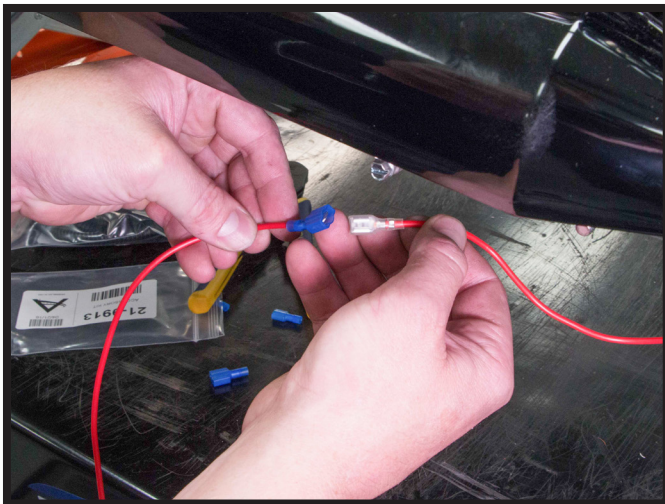

FIGURE 36
19. USING THE INCLUDED WIRE AND CONNECTORS, MAKE EXTENSIONS FOR THE PUMP & SOLENOID WIRE. (FIGURES 36, 37)